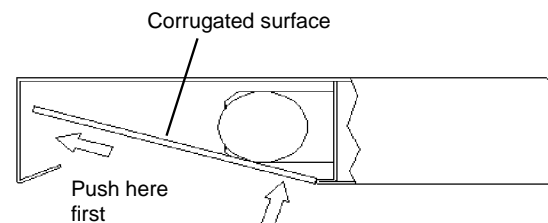

Figure 9. Replacing lens and bulb
4. Now replace the bulb and the lens. The corrugated surface of the lens is toward the bulb. See **Figure 9**.